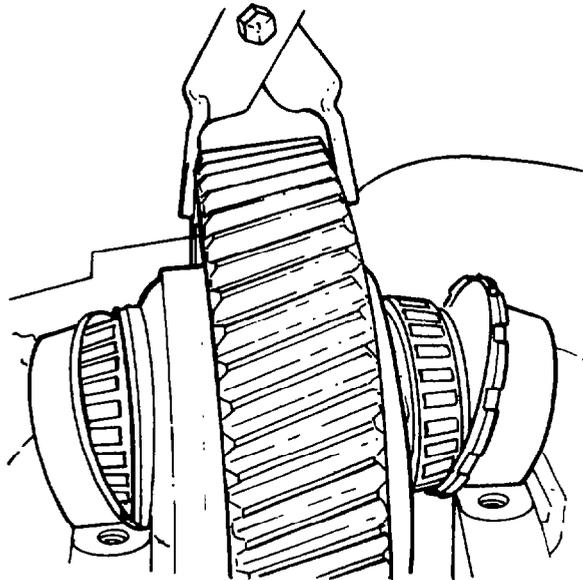

Fig. 335 — Installing Differential Assembly
- m. Using suitable lifting equipment, install the differential assembly (see fig. 335). Ensure the bearing cups are properly seated on the bearing pedestals.